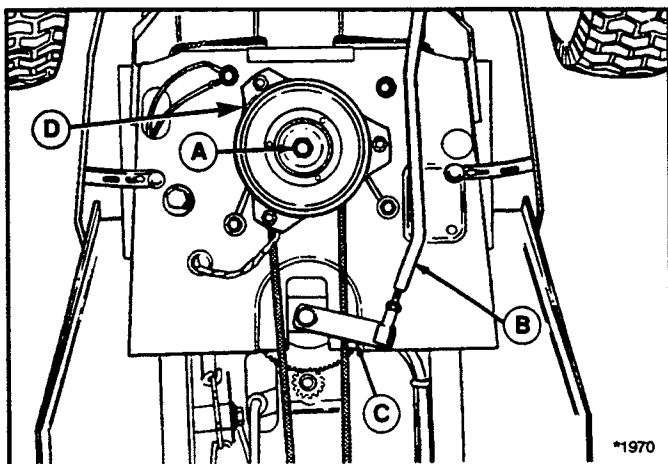

Figure 39. Drive Belt Engine Pulley
5. See figure 39. To remove belt from engine pulley, the electric clutch must be removed and the belt slid over the top of the pulley. Disconnect the clutch wire. Remove the capscREW (A) along with the washer and lockwasher securing the electric clutch to the engine crankshaft. Slide belt over the top of the engine pulley.
6. See figure 39. Install new belt over engine pulley before re-installing the electric clutch. Install washer, lockwasher and capscREW (A). Lubricate weld tab on underside of tractor (D). Make sure tab is aligned with hole in top of electric clutch, then tighten capscREW to 45-50 ft. lbs. Recheck torque after 1 hour of operation.
7. See figure 39. On left-hand side of tractor, remove nut securing drag link (B) to steering arm (C). Drop old belt below drag link. Route new belt above drag link before re-installing nut on drag link, then tighten nut.
5. See figure 39. To remove belt from engine pulley, the electric clutch must be removed and the belt slid over the top of the pulley. Disconnect the clutch wire. Remove the capscrew (A) along with the washer and lockwasher securing the electric clutch to the engine crankshaft. Slide belt over the top of the engine pulley.
6. See figure 39. Install new belt over engine pulley before re-installing the electric clutch. Install washer, lockwasher and capscrew (A). Lubricate weld tab on underside of tractor (D). Make sure tab is aligned with hole in top of electric clutch, then tighten capscrew to 45-50 ft. lbs. Re-check torque after 1 hour of operation. Reconnect the clutch wire.